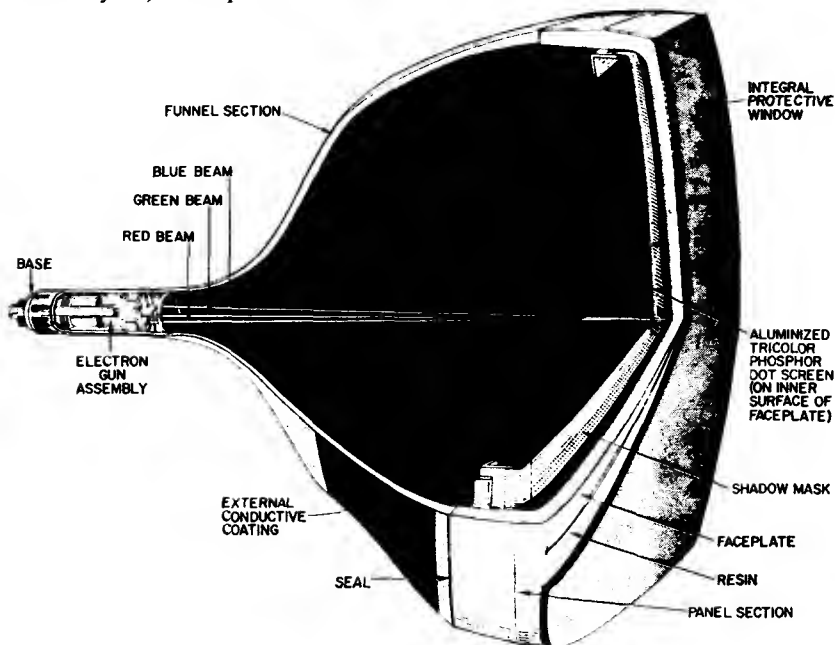

Fig. 11—Cutaway view of color television picture tube.
of phosphor dots deposited in an interlaced pattern. Each dot of a trio is capable of emitting light in one of the three primary colors (red, green, or blue). (2) A shadow mask mounted near the screen of the tube contains over 300,000 apertures, one for each of the phosphor dot trios. This mask provides color separation by shadowing two of the three phosphor dots of each trio. (3) Three closely spaced electron guns, built as a unit, provide separate beams for excitation of the three different color-phosphor-dot arrays. Thus it is possible to control the brightness of each of the three colors independently of the other two. Fig. 11 shows a cut-away view of a color television picture tube.